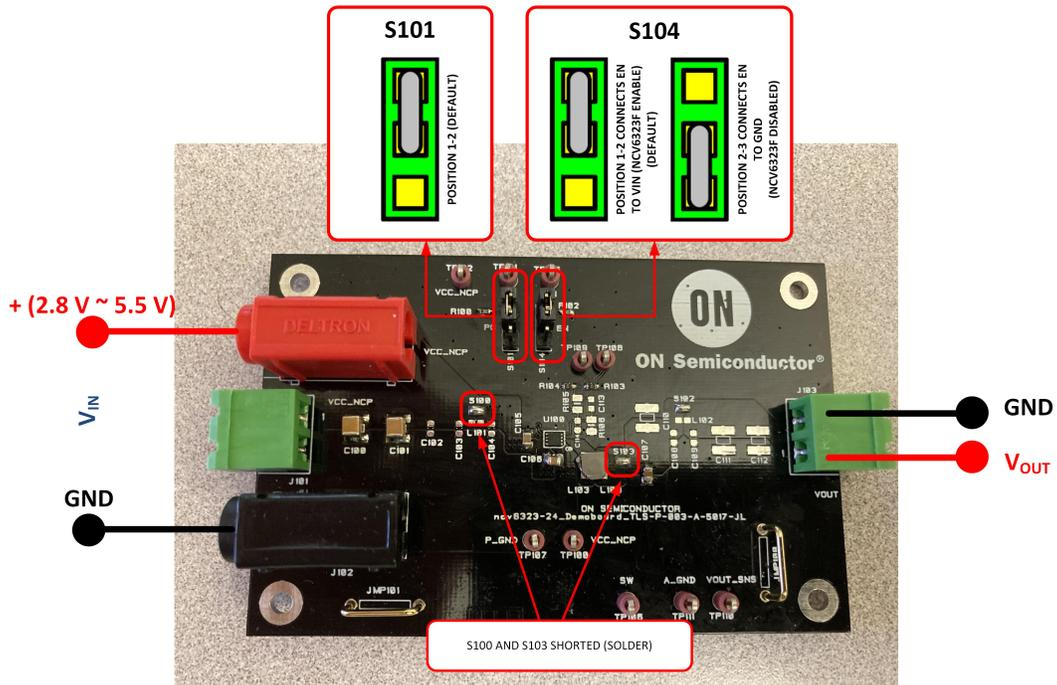

Figure 8. Configuration and Connection
Prior to operate the board, the user has to configure two jumpers (Figure 8). For operation with NCV6323F, the S101 (PG) jumper should always be configured in position 1–2 and the S104 (EN) jumper connects the EN pin to GND (position 2–3), disabling the NCV6323F or to a pull up to  $V_{IN}$  (position 1–2) enabling the NCV6323F. The S100 and S103 jumpers should be shorted by solder.
- (Figure 8)